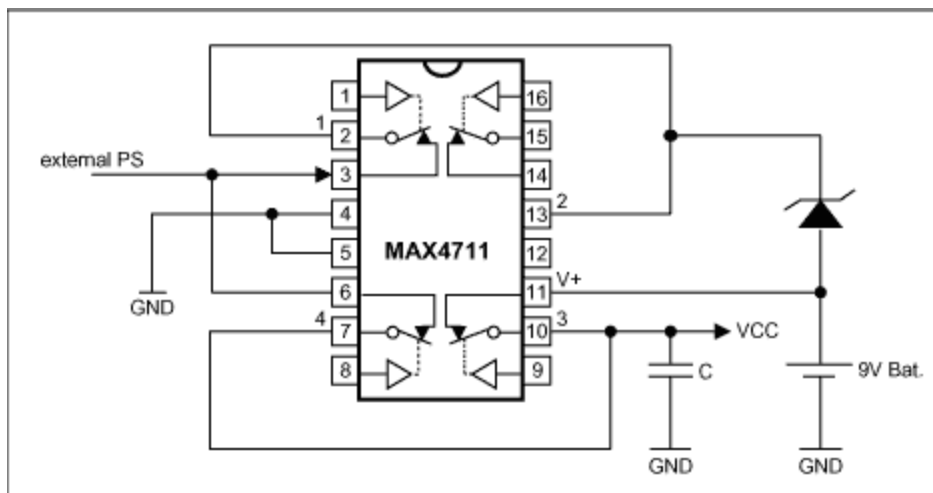

Figure 8. Battery switch off when external power supply is present.
The low-voltage fault-protected switch in **Figure 8** switches off the internal supply via a 9V battery (or two lithium coin cells in series, etc.) when it detects an external supply such as a wallcube (PS). Normally, the switch is supplied by the battery at pin 13. A low-voltage Schottky diode protects the non-rechargeable battery from being charged when an external supply is connected.